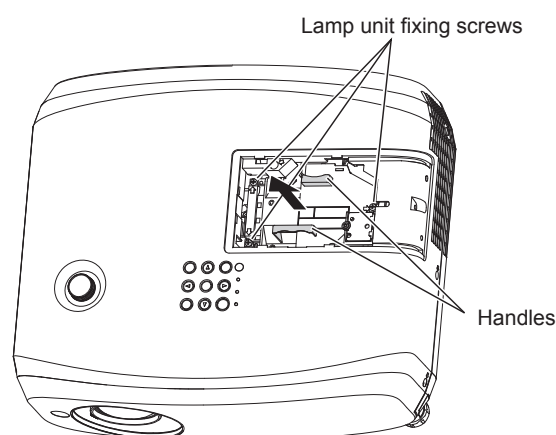

Fig. 2
3) Remove the air filter unit. (Fig. 2)
2) Dry the air filter unit. (Fig. 2)
- 3) **Remove the lamp unit. (Fig. 2)**